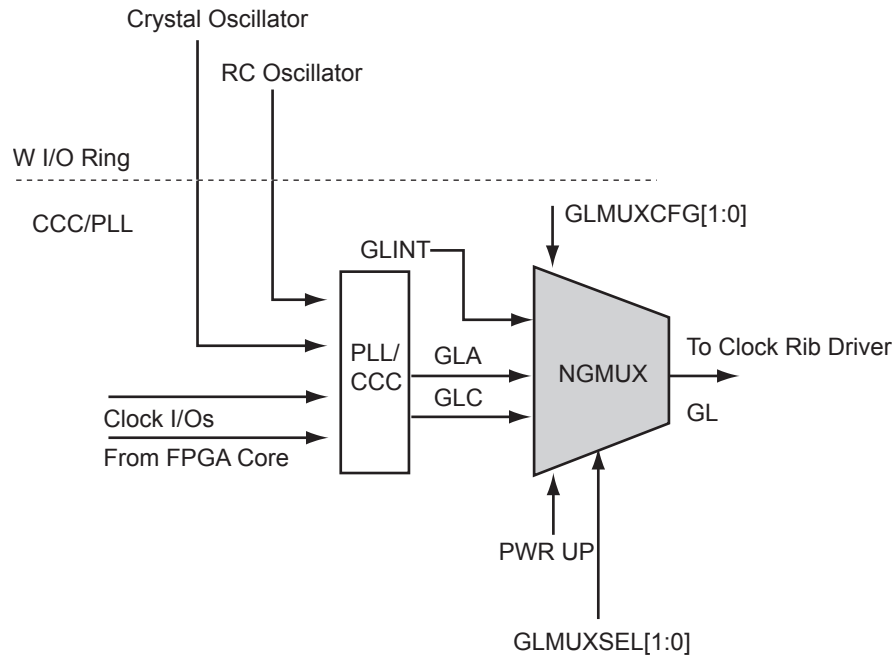

Figure 2-24 • NGMUX
Positioned downstream from the PLL/CCC blocks, the NGMUX provides a special switching sequence between two asynchronous clock domains that prevents generating any unwanted narrow clock pulses. The NGMUX is used to switch the source of a global between three different clock sources. Allowable inputs are either two PLL/CCC outputs or a PLL/CCC output and a regular net, as shown in Figure 2-24. The GLMUXCFG[1:0] configuration bits determine the source of the CLK inputs (i.e., internal signal or GLC). These are set by SmartGen during design but can also be changed by dynamically reconfiguring the PLL. The GLMUXSEL[1:0] bits control which clock source is passed through the NGMUX to the global network (GL). See Table 2-12.